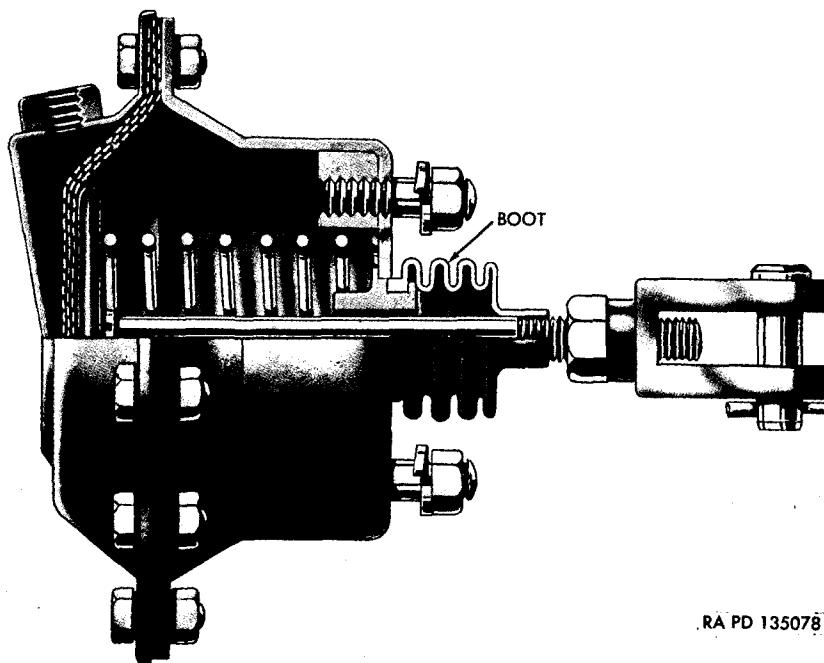

Figure 156. Brake chamber with boot.
- (1) Brake chambers convert the energy of compressed air into the mechanical force and motion necessary to operate the brakes.
- (2) Conventional brake chambers (lettered types) are made in several different sizes. The over-all diameter of the smallest is $5\frac{1}{4}$ inches and the largest is 11 inches. Each of these sizes is made for several different mountings, such as the stud-type mounting (figs. 152 and 153), bracket-type mounting (fig. 155), and flange-type mounting (fig. 154). Brake chambers use either a dirt-seal washer (fig. 155) or a rubber boot (fig. 156) to prevent dirt from entering the chamber.